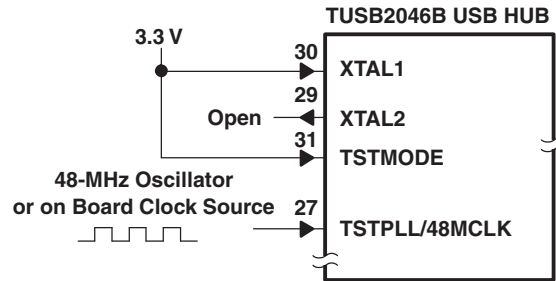

Figure 8. 48-MHz Input Clock Configuration
- A 48-MHz input clock configuration is shown in Figure 8. In this mode, both TSTMODE and XTAL1 terminals must be tied to 3.3-V VCC. The hub accepts the 48-MHz clock input on TSTPLL/48MCLK (terminal 27). XTAL2 must be left floating (open) for this configuration. Only the oscillator or the onboard clock source is accepted for this mode. A crystal can not be used for this mode, since the chip's internal oscillator cell only supports the fundamental frequency.